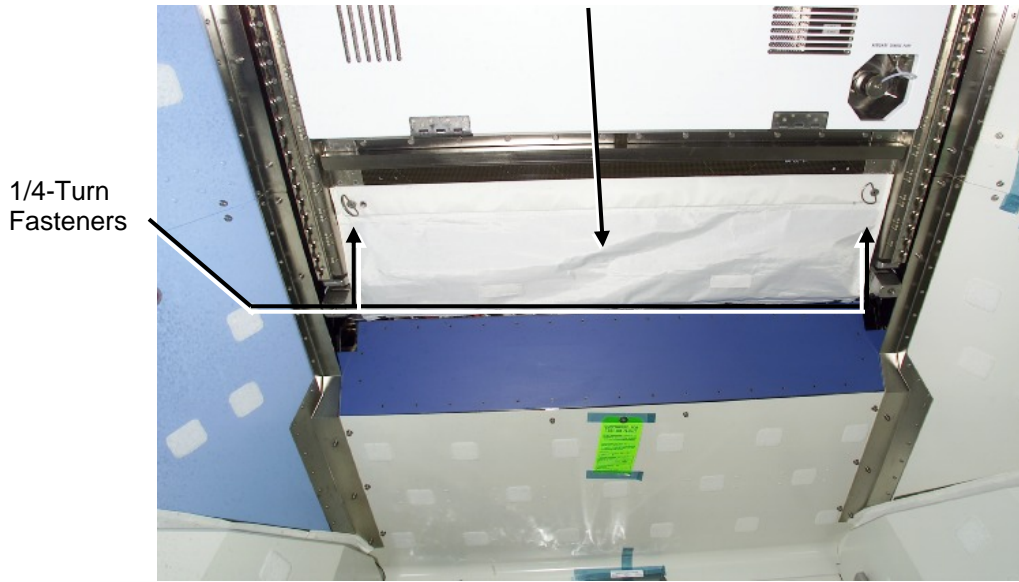

Figure 1.- Airlock Avionics Rack UIP Closeout.
- 2.1 **On MCC-H GO**, open UIP Closeout, 1/4-turn fasteners (two). Refer to Figure 1.
Refer to Figure 1.